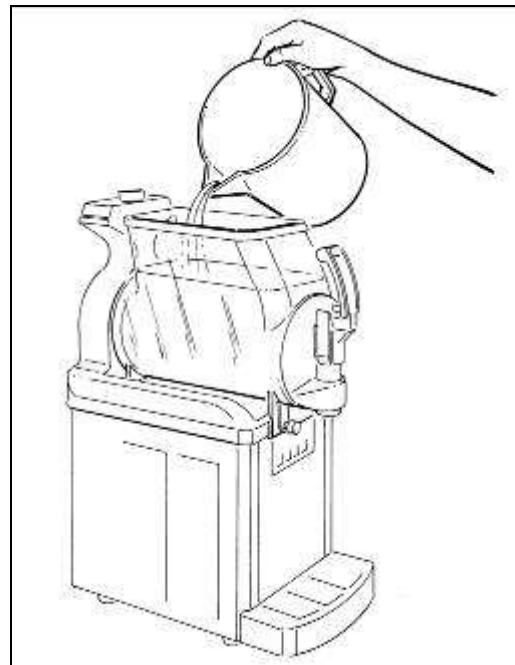

Fig. 5
- Pour the mix obtained into the bowl (see fig.5).